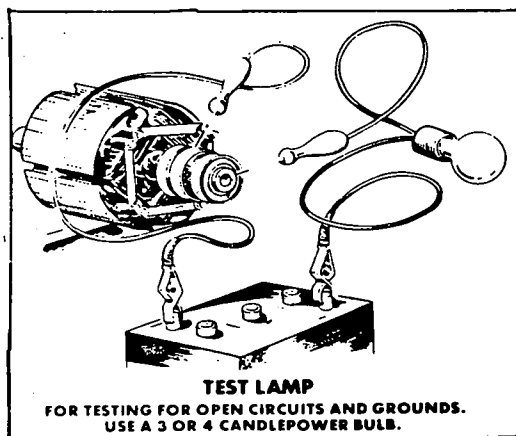

FIG. 6-12. CONTINUITY TEST LAMP
- b. Test for short or open circuit in rotor winding, by measuring resistance of winding. It should measure approximately 3.27 ohms (at 70°F). If an accurate ohmmeter isn't available, check the rotor for open circuit or grounding with a dc test lamp (Fig. 6-12).